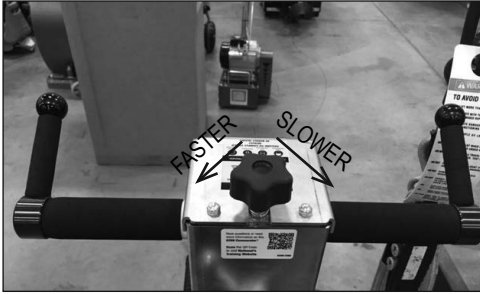

FIG. 10
- Turning speed control knob counterclockwise will increase maximum forward speed (Figure 10).
- Turning speed control knob clockwise will decrease maximum forward speed (Figure 10).